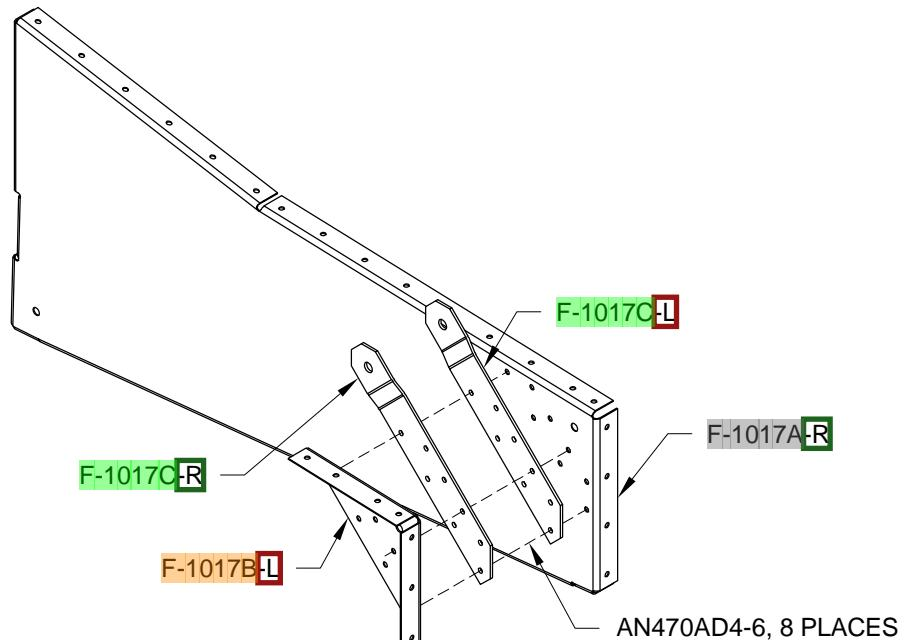

FIGURE 1: REAR SEAT RIB SUBASSEMBLY
Step 4: Cleco then final-drill #30 the F-1017B-L Seat Belt Attach Rib and F-1017C-L and F-R Seat Belt Attach Lugs to the F-1017A-R Rear Seat Rib as shown in Figure 1. This will form a Left Rear Seat Rib Subassembly. Repeat this step to form another Left Rear Seat Rib Subassembly and two Right Rear Seat Rib Subassemblies. The right assembly is a mirror of the left.